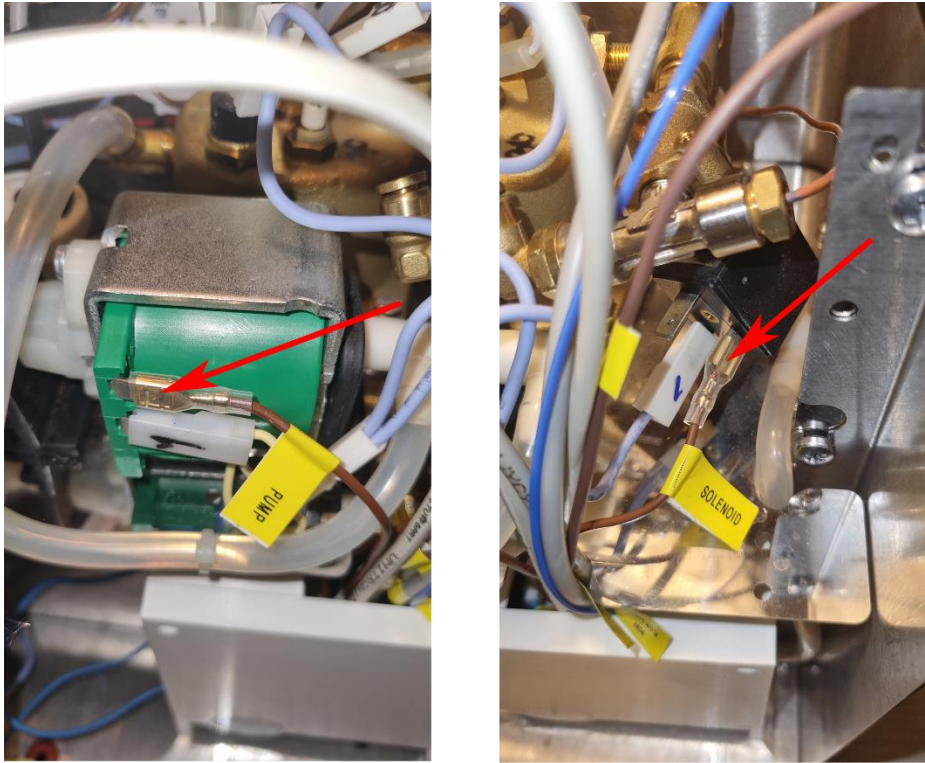

Fig. 7.4
- Connect the PUMP PLUG to the empty pump slot (fig. 7.4)
- Connect the SOLENOID PLUG to the empty 3-way solenoid valve slot (fig. 7.4)